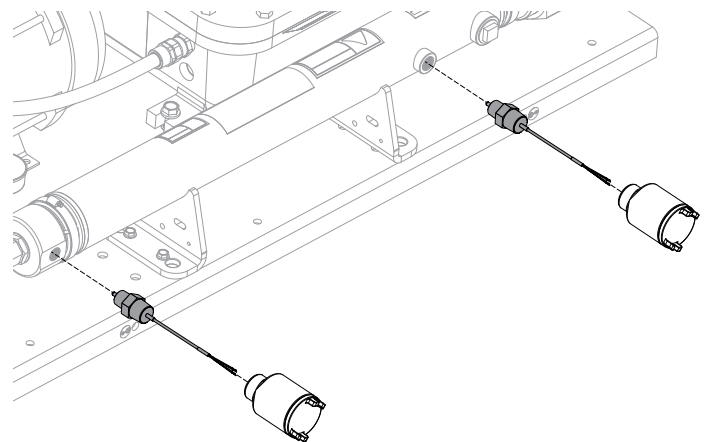

Figure 10. RTD plug. For CLA RTD enclosure removal, both enclosures may need to be removed for access.
- If there **is no continuity** between TCR terminals **T2** and **T3**, locate connected RTD on the heating tank. Unscrew the RTD plug from RTD. See Table 2 and Fig. 10, Fig. 11 on following page.